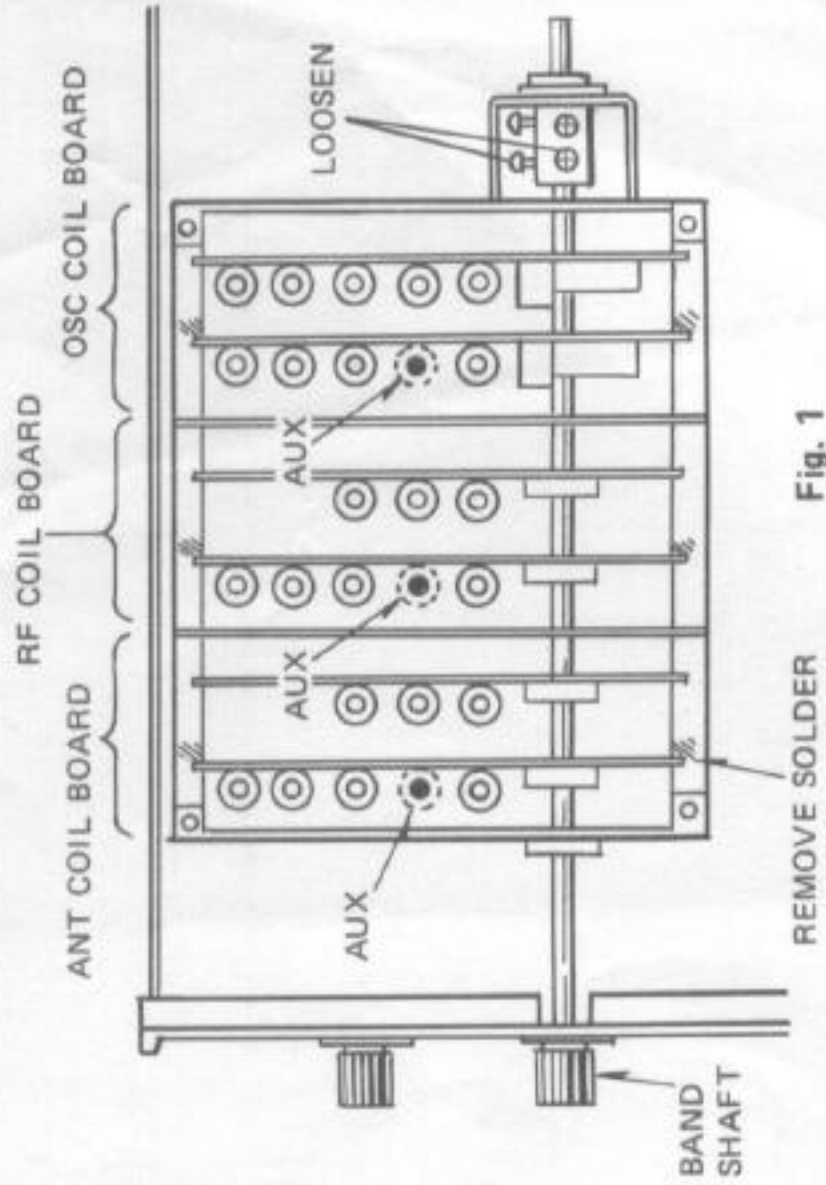

Fig. 1
3. Loosen the two screws holding the band switch shaft as shown in Figure 1.